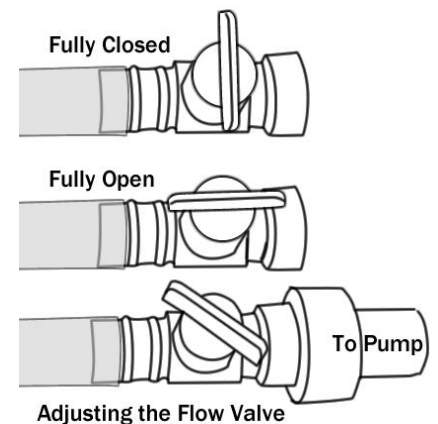

Fig 10.1
1. After mounting your fountain to the wall, fill the reservoir (L) with water (distilled water is strongly recommended). The water level must always be maintained at least 1" above the pump. If the water level drops below the pump, splashing and damage may occur.
2. Before turning on your fountain for the first time make certain the flow adjustors on all pumps are open, having the flow valve in a closed position puts excessive pressure on the pump and may cause it to overheat and break. The flow valve lets you increase or decrease the amount of water flowing over the waterfall (Fig 10.1). You will need to adjust the flow valve to the proper rate for solid water coverage but not so fast that it causes splashing.
4. Install the Rock Tray (N) and spread Rocks (I) equally throughout the tray. Do not sit or pile any stones up against the stone slabs as this may cause minor splashing.